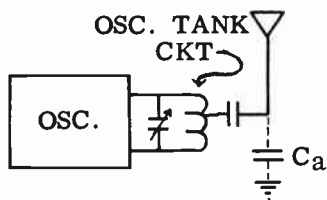

FIG. 13-2. ONE-TUBE TRANSMITTER.
**ONE-TUBE TRANSMITTER.** In the original radio transmitters, the oscillator was directly coupled to the antenna system. In order to increase the output power, it was necessary to use a larger tube or to increase the operating voltages. There is a limit, however, to the amount of power that one can get from a one-tube transmitter. Another drawback of the simple oscillator type of transmitter is its poor frequency stability. Fig. 13-2 shows